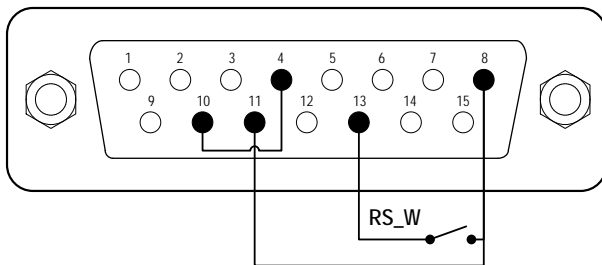
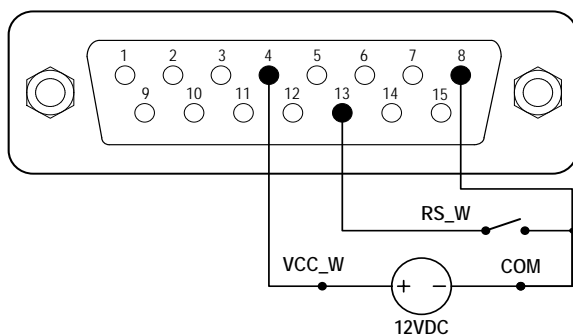

Figure 45. Control Start/Stop with Internal 12V Power Source
Figure 46. Control Start/Stop with External 12V Power Source
- 1) Power pump off. Wire the DB15 connector as shown on Figure 45 or Figure 46, and connect it to the DB15 port on the rear of the pump.